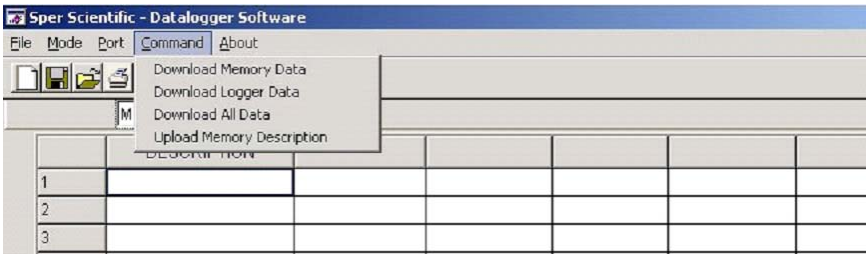

Figure 3.
There are four (4) command options supported by the software. Choose the correct mode before uploading or downloading data. (see Figure 3)